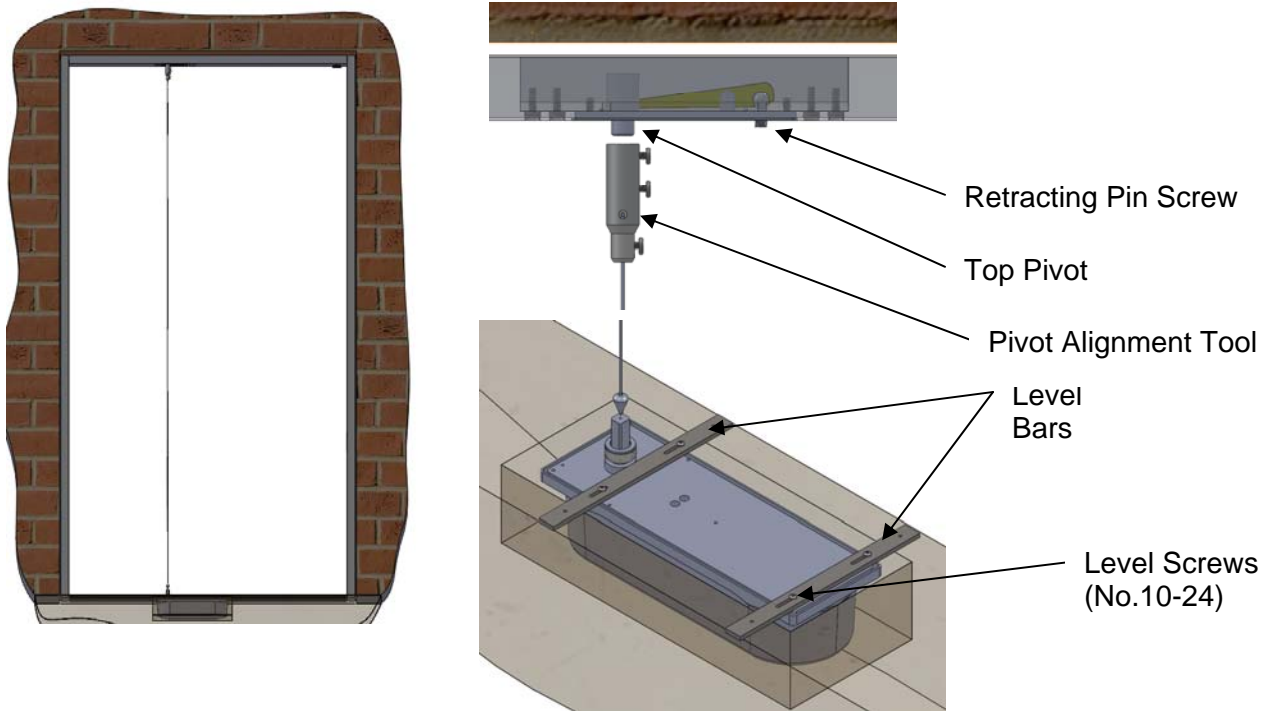

Figure 11:
4. Use a plumb line to center top pivot pin with center of closer spindle (Figure 11).